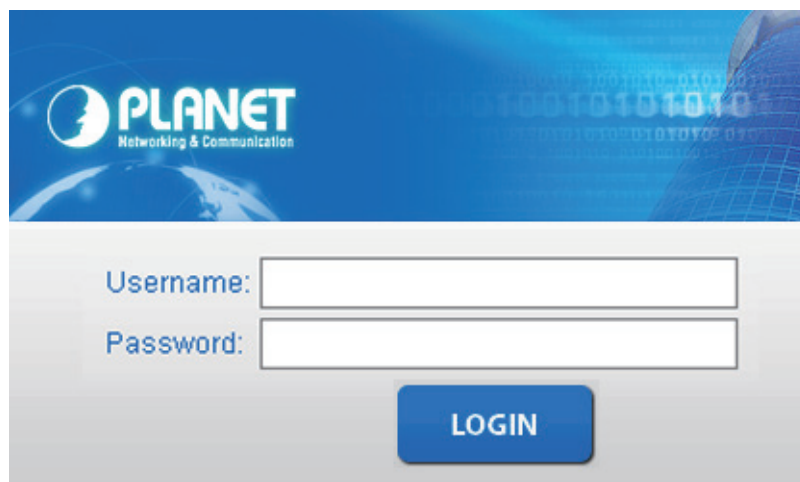

Figure 5-2: Web Login Screen
2. When the following dialog box in **Figure 5-2** appears, please enter the default user name and password. Refer to **Section 4.1** to determine your initial login password.